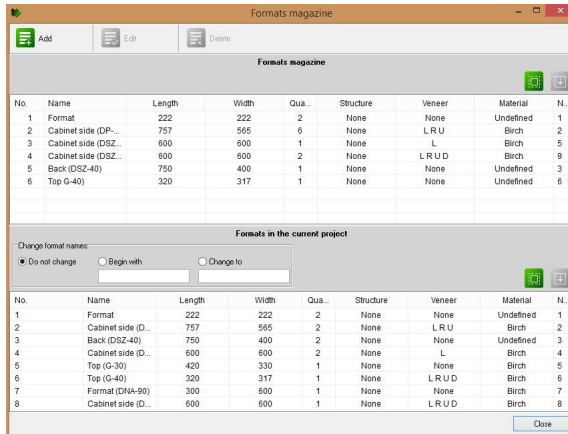

Fig. 45 – formats magazine
- 3)  **Formats magazine** - opens the window of the magazine of formats (Fig. 45).